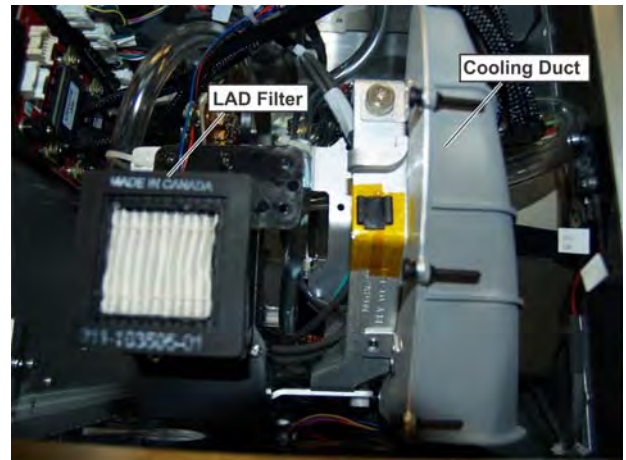

Figure 5-15 LAD Filter
3. Pull the LAD filter out. **(Figure 5-15)**